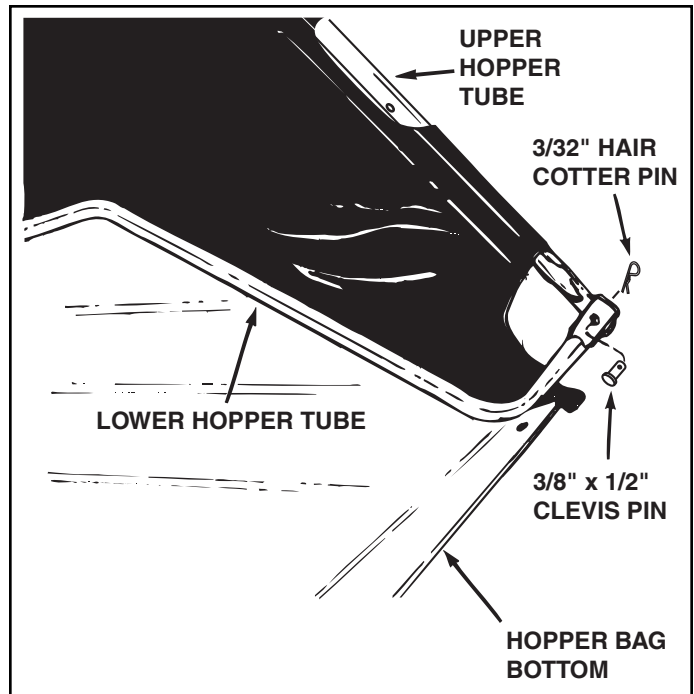

FIGURE 13
- Place the assembled lower hopper tubes into the bottom of the hopper bag as shown in figure 13.
- Attach the ends of the lower hopper tubes to the **inside** of the upper hopper tubes using two $\frac{3}{8}$ " x $\frac{1}{2}$ " clevis pins inserted from the inside, and two $\frac{3}{32}$ " hair cotter pins. See figure 13.